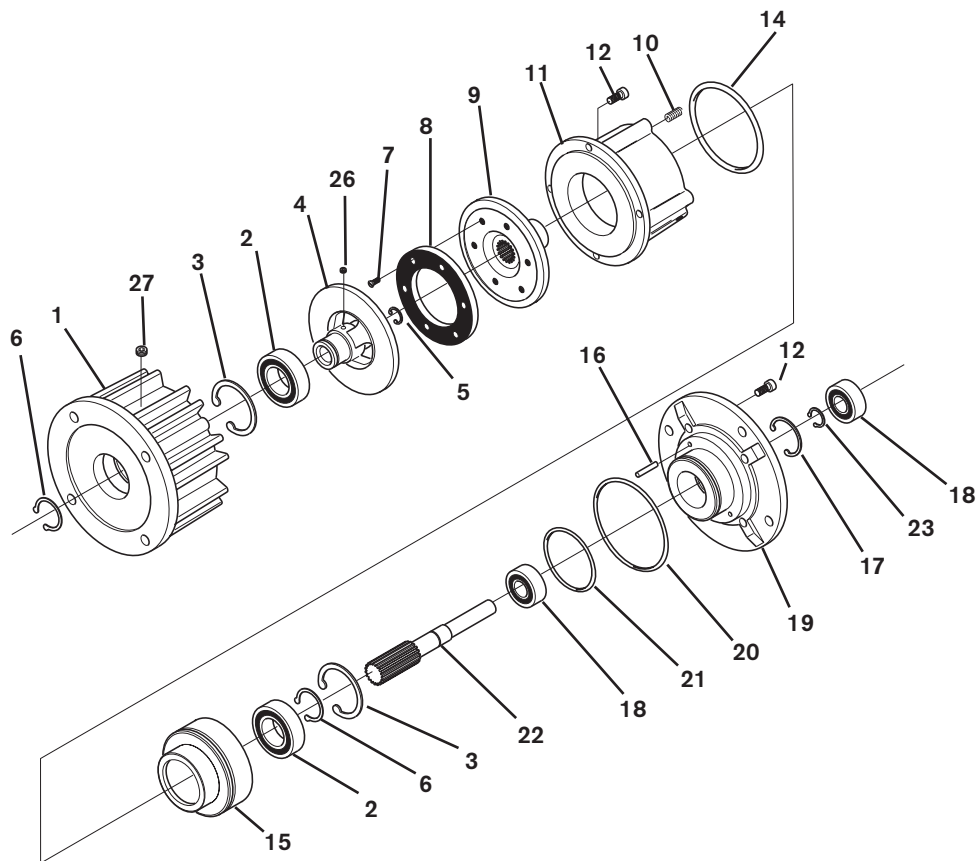

FIGURE 13
15. Alternately and evenly tighten the four Socket Head Cap Screws (Item 24) to the recommended torque (See Figure 13 and Table 5).